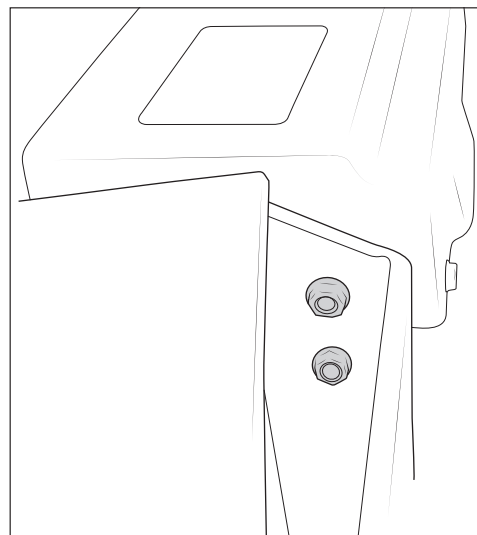

Figure 24
10. Attach the solenoid pack to the bumper using the supplied hardware (fig. 24). NOTE: You may need to adjust the solenoid pack on the bracket to fit between the winch and the bumper.